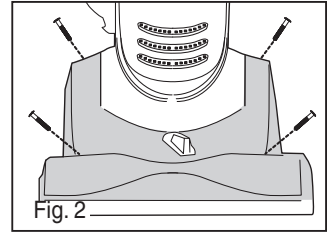

Fig. 2
- 2) Remove 4 screws from brush roll cover. (Fig. 2).
- 2) **Base hose** – remove 4 screws and brush roll cover. Clear blockage from base hose and check for debris in brush roll. Replace screws and cover (Fig 2).